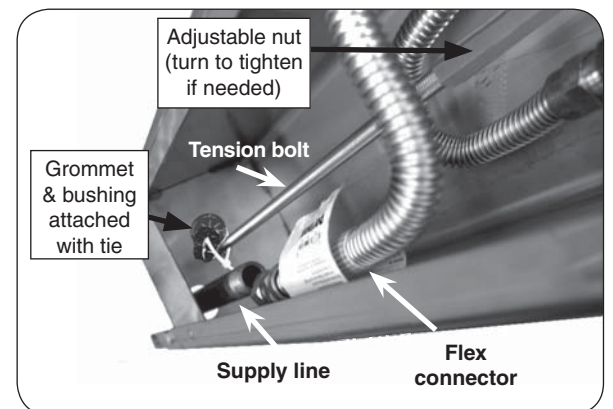

Fig. 13-3 Post interior detail
2. Verify that the gas supply line fits through the gas line clearance hole in the bottom of the post (see Fig. 13-3). The clearance hole is the larger of the two holes in the bottom of the post and is off center.